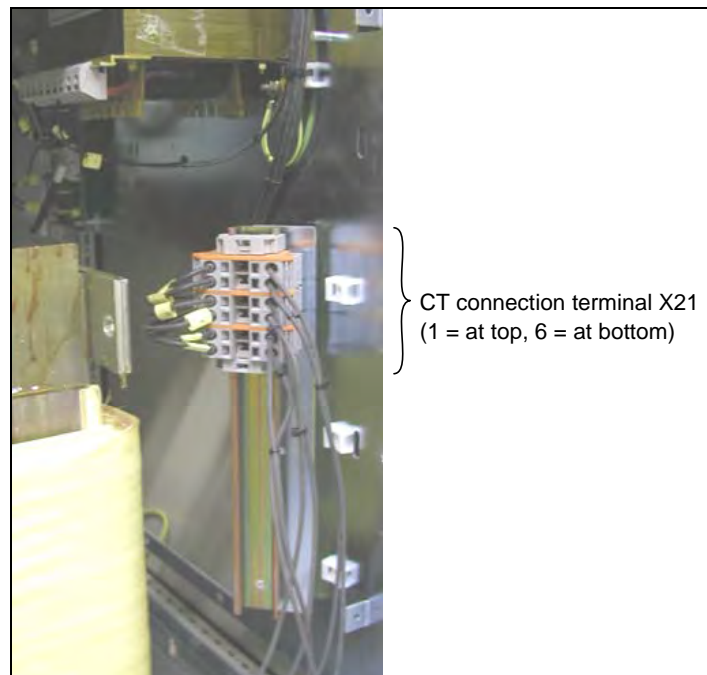

Figure 7.14. Location of the CT connection terminal X21 in the PQFI
- The CT connection terminal X21 is located at the bottom right part of the filter (Cf. Figure 7.14.)